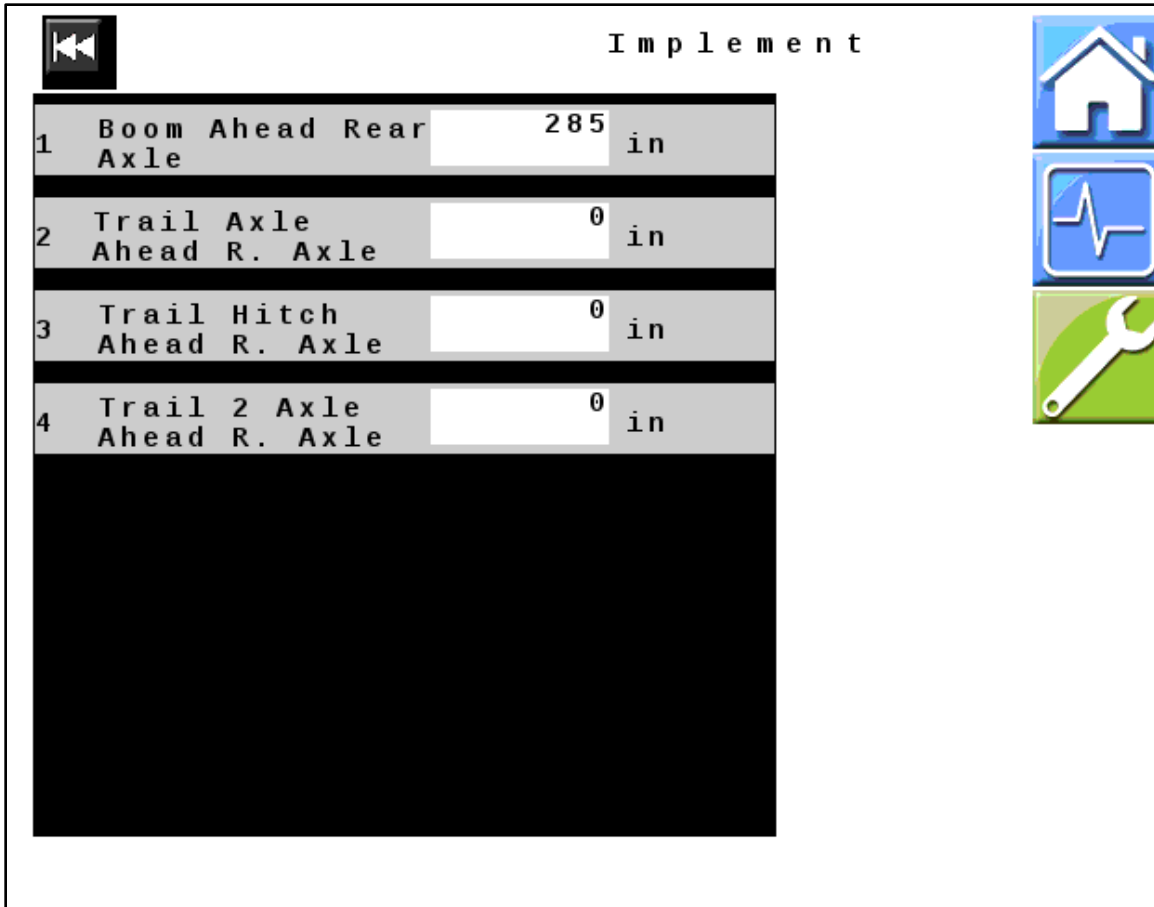

Figure 23 — Implement
42. *Figure 23:* Verify that all values displayed on your unit match those shown here. Change values if necessary.